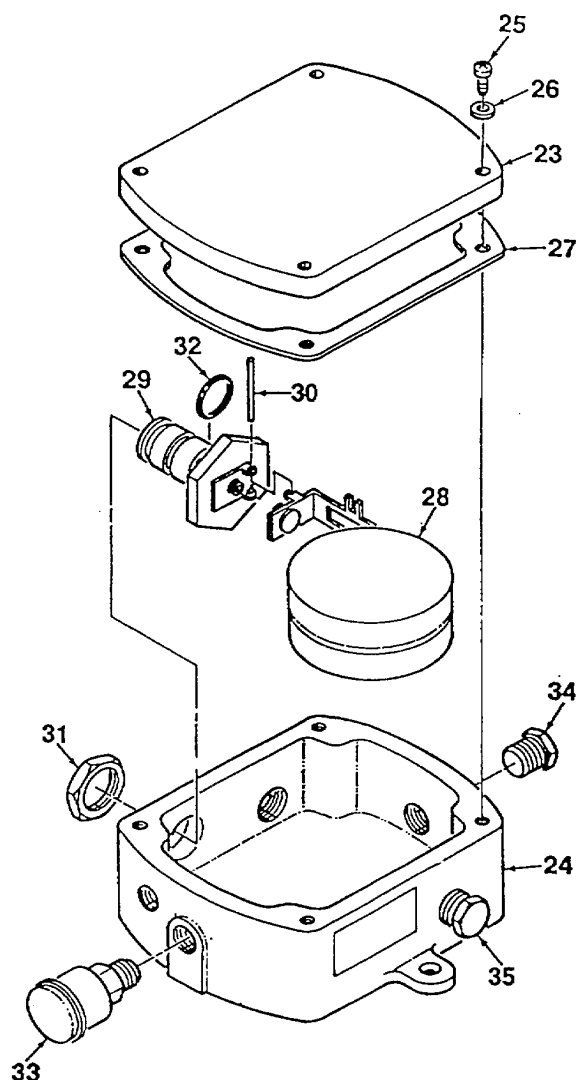

Figure 4-23. Float Valve Housing
1. Install thread sealant on threads of elbows (11, 15, Figure 4-23) and adapter (20) that install into float valve housing assembly (37). Install elbows and adapter. Refer to figure for correct orientation of elbows.
2. Install housing assembly (37) using screws (36), locknuts (21), and washers (22).
3. Connect fuel hose (13) to elbow (11).
4. Connect fuel hose (14) to elbow (15).
5. Install elbow (18) into adapter (20). Connect fuel hose (17) to elbow.
6. Install fuel module front plate (1) onto enclosure (2) using four screws (3), lockwashers (4), washers (5), and two screws (6).
7. Connect two fuel hoses (10) to rear of bulkhead fittings (7).
8. Connect electrical cables to rear of feed-thru studs (9) and secure using stud nuts and washers.
9. Install electrical connector (8) into hole in front plate (1).